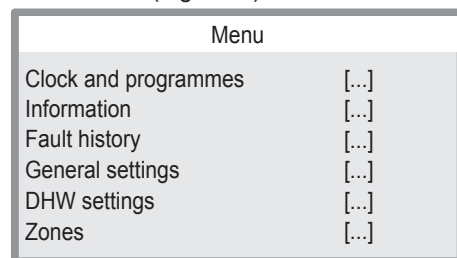

Fig. 3.16
- Press key 15 (Fig. 3.15) to access the main menu (Fig. 3.16).